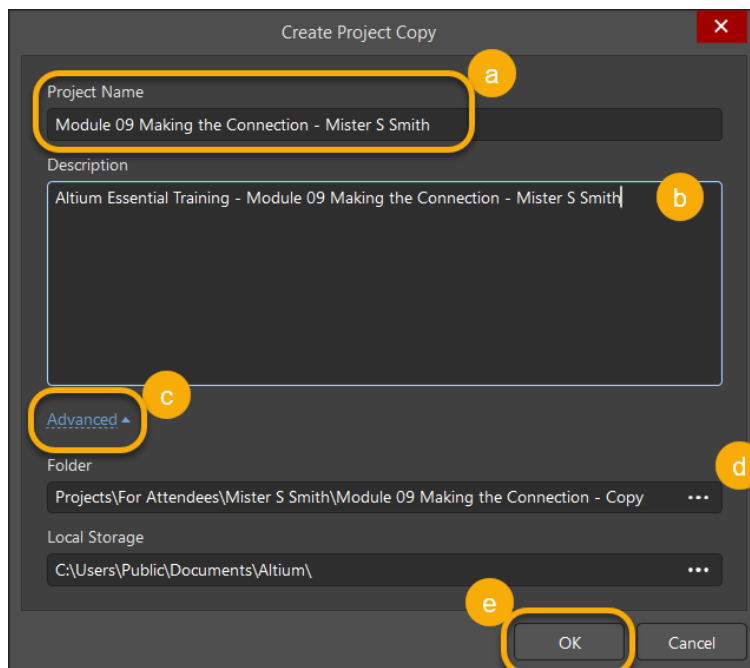

Figure 4. Create Project Copy
11. At the new dialog *Create Project Copy*, as seen at Figure 4.